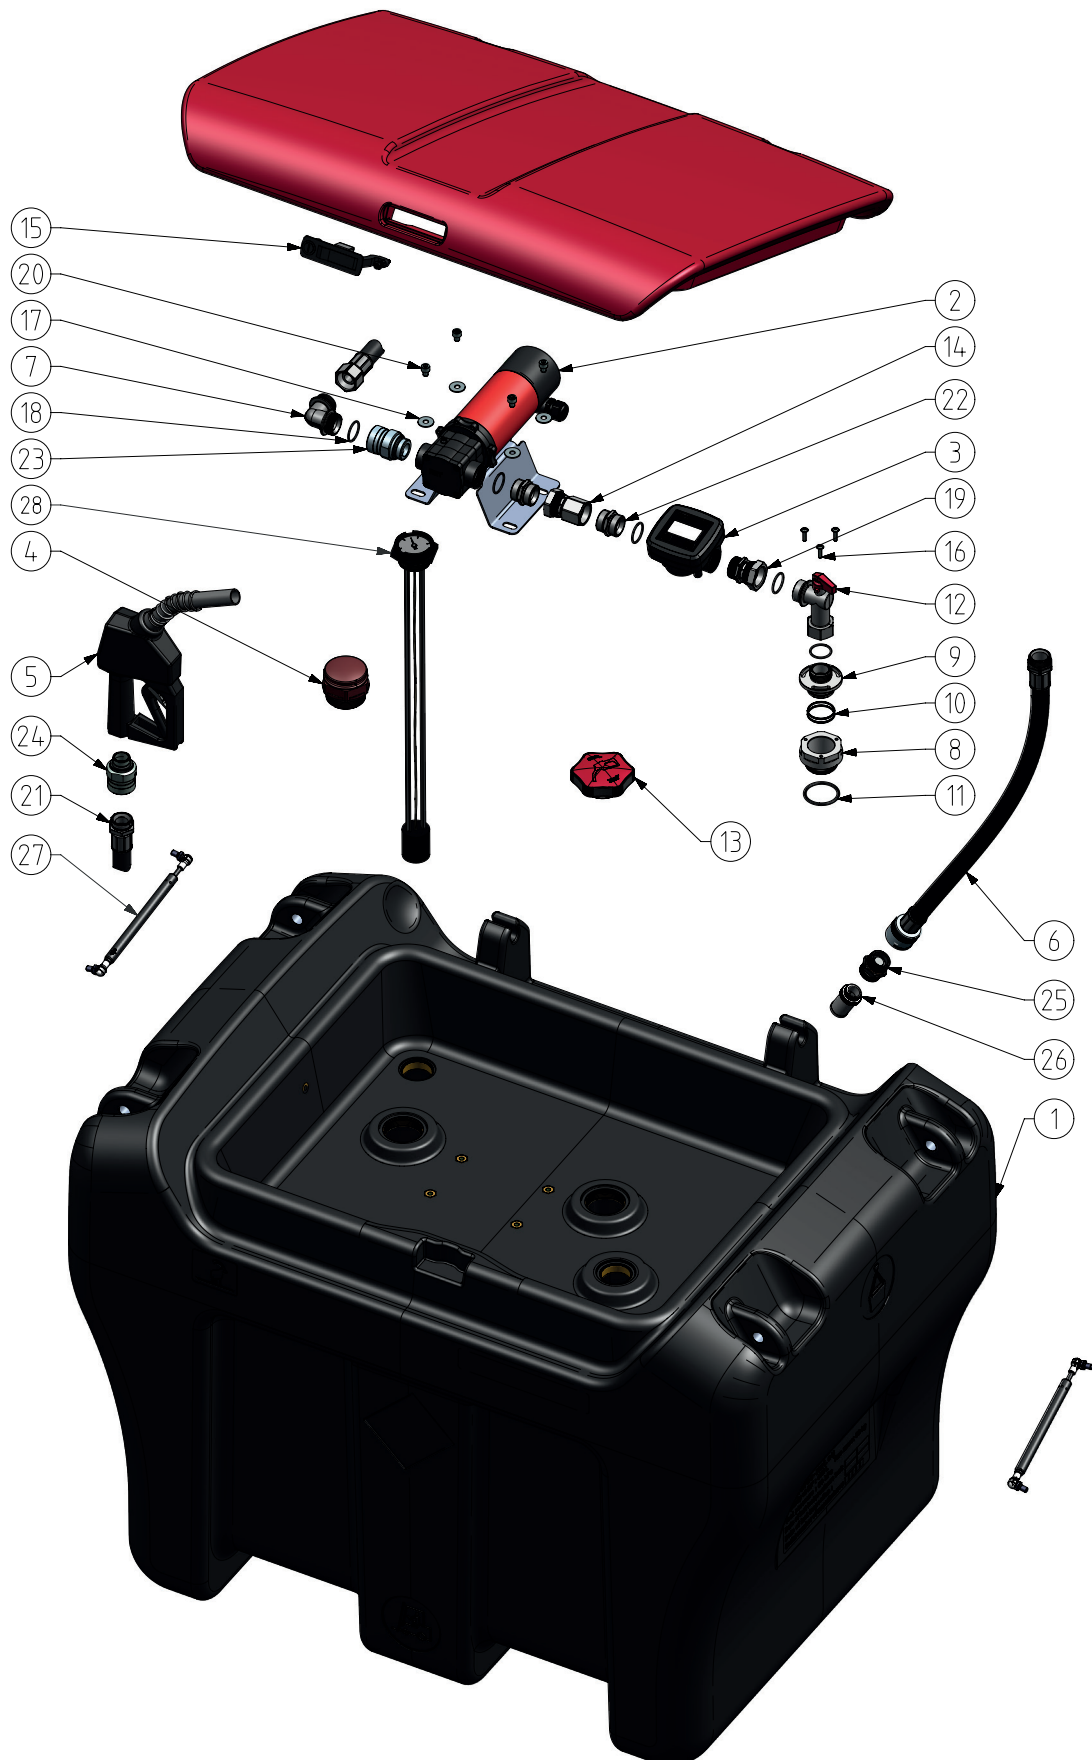

Fig. 18.-1: Exploded view mobiMASTER-54 l/min
- The filter on the suction hose (⇨ fig. 18.-1; pos. 26) should also be cleaned if necessary when the supply rate is too low.
- Take the nozzle (⇨ fig. 18.-1; pos. 5) out of the holder and insert it into the vehicle's filler neck. Press the trigger only when the pump (⇨ fig. 18.-1; pos. 2) is running.
- Operate the button located on the right side of the diesel pump to switch on the pump's power supply. (⇨ fig. 18.-1; pos. 2)
Tab. 18.-1: Overview of components for fig. 18. -1